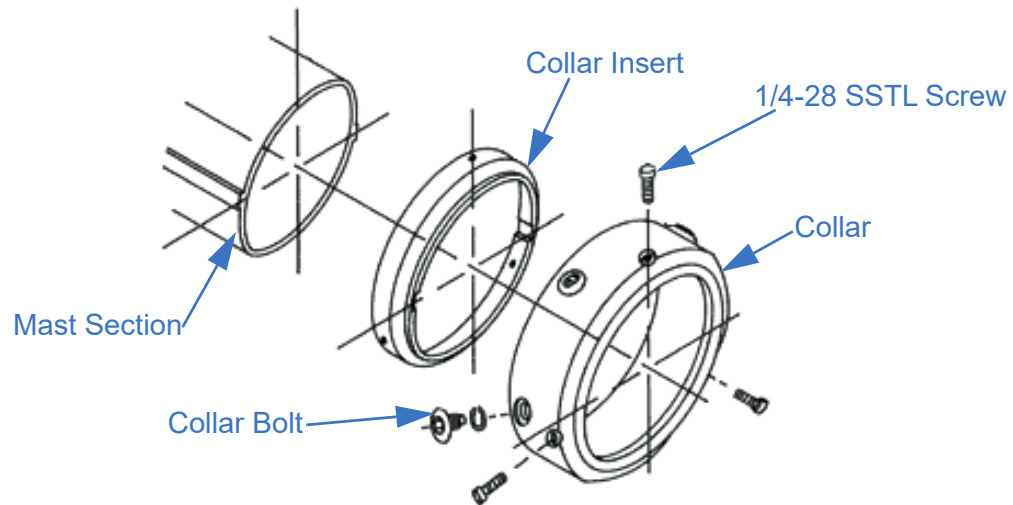

Figure 8-7 Replacing Collar Inserts
2. Remove the (3) 1/4-28 socket head cap screws from the collar with a hex wrench. This allows the collar insert to be removed.
9. Clean the collars before reassembling the mast (Figure 8-7).